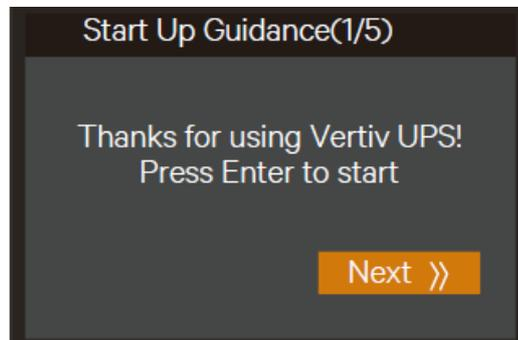

Figure 2-5 Start up interface
b) Press the  or  key to select and set corresponding parameters (taking 'Output' as an example). As shown in Figure 2-5.